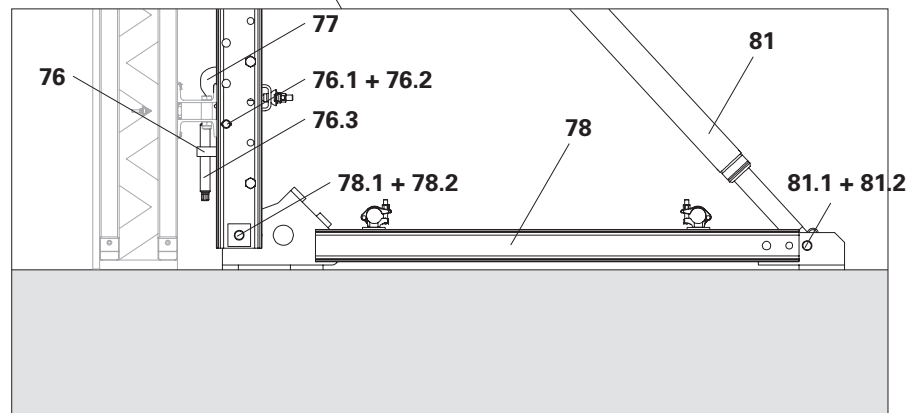

Fig. D2.02
3. Secure the Height Adjusting Unit CB SCS (**76**) on Strongback SCS 325 (**74**) with bolt Ø25x180 mm (**76.1**) and Cotter Pin 5/1 ga (**76.2**). (Fig. D2.02)